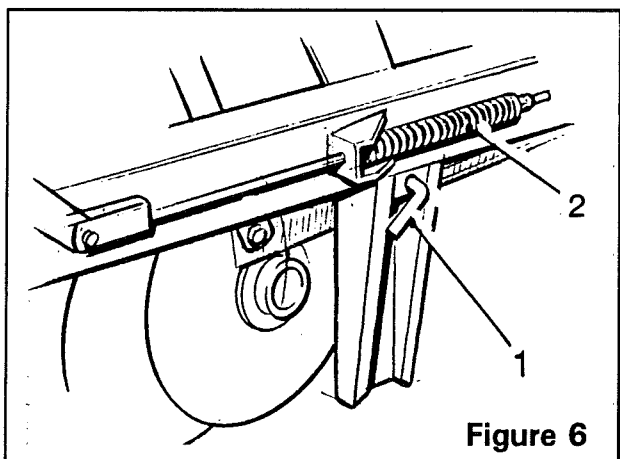

Figure 6
The front assembly, which includes the digger web, digger share, diablo rollers and disc coulters, is retained in the raised (transport) position by two locking pins (item 1, figure 6). The locking pins can be removed by turning them through 90°. Ensure the locking pins are relocated for transport.
The front assembly is hydraulically adjustable for height. To raise or lower the front assembly, move the switch on the in-cab control box marked 'Digger Share Raise/Lower' to the required position. Ensure that the locking pins (item 1, figure 6) are in the working position.
The diablo rollers control the digging depth whilst at the same time ensure even digging with the help of the compensator springs (**item 2, figure 6)**.
As a general rule, heavy and/or stony conditions requires shallow digging, with the disc coulters set at minimum possible width and depth. The compensator springs (item 2, figure 6) should be slackened off enough to allow share penetration. Lighter soil requires deeper and wider width settings of shares and disc coulters to retain the soil. The compensator springs (item 2, figure 6) should be adjusted to allow them to transfer the weight of the digger assembly onto the main frame.